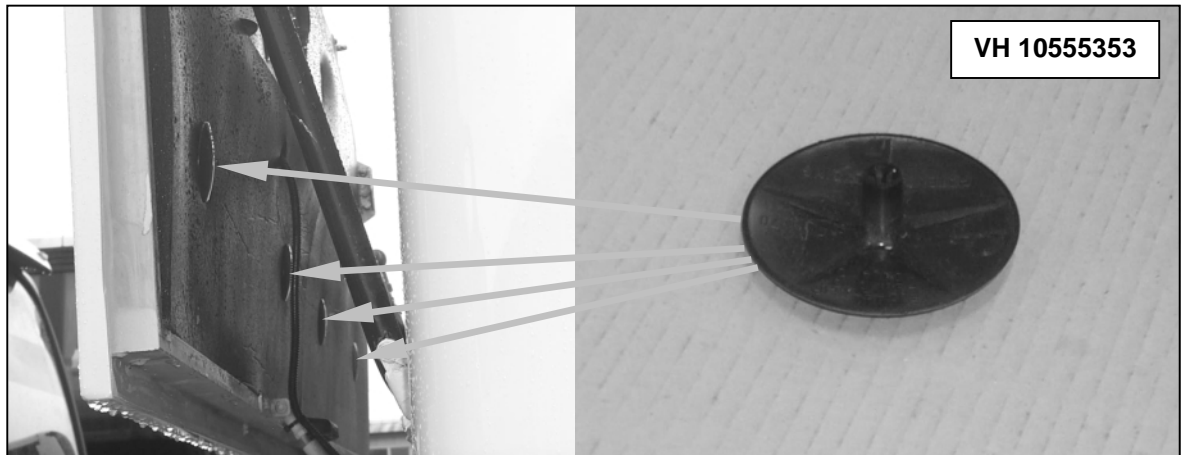

Figure 1: Snap buttons retaining the insulation (lower buttons shown only)
- 4) Working in between the door and the coach, lever off all fourteen snap buttons securing the insulation with a large flat tip screwdriver (see Figure 1). During removal, place a piece of plywood between the tip of the screwdriver and the insulation to prevent damage. Discard the buttons.